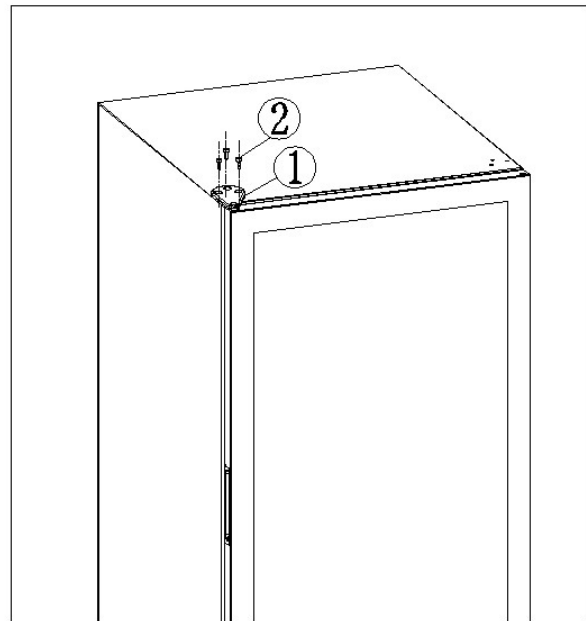

Figure 4
4) Install the door body in the reverse order of dismantling the door, install the upper door hinge in the screw hole on the other side of the top of the box, adjust the level of the door body, lock the screws, and complete the replacement of the door opening direction。 See Figure 4.